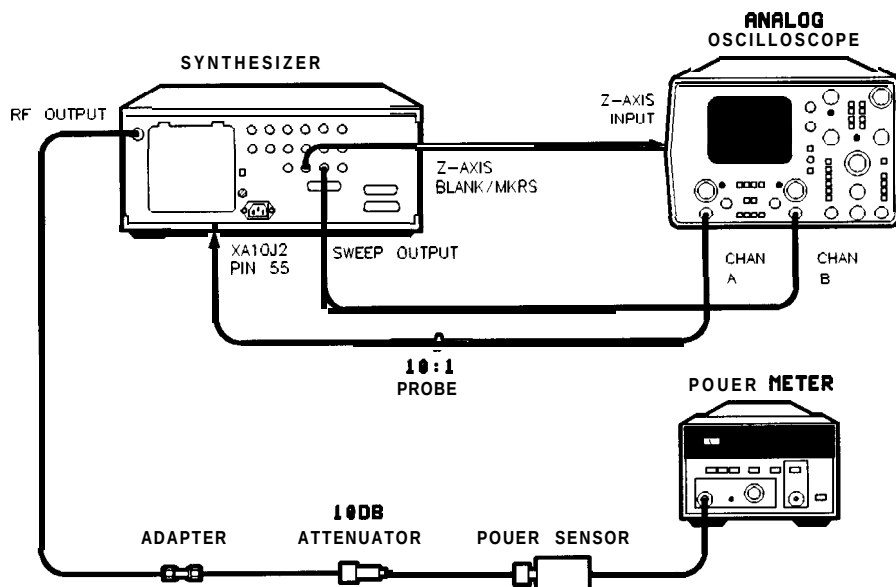
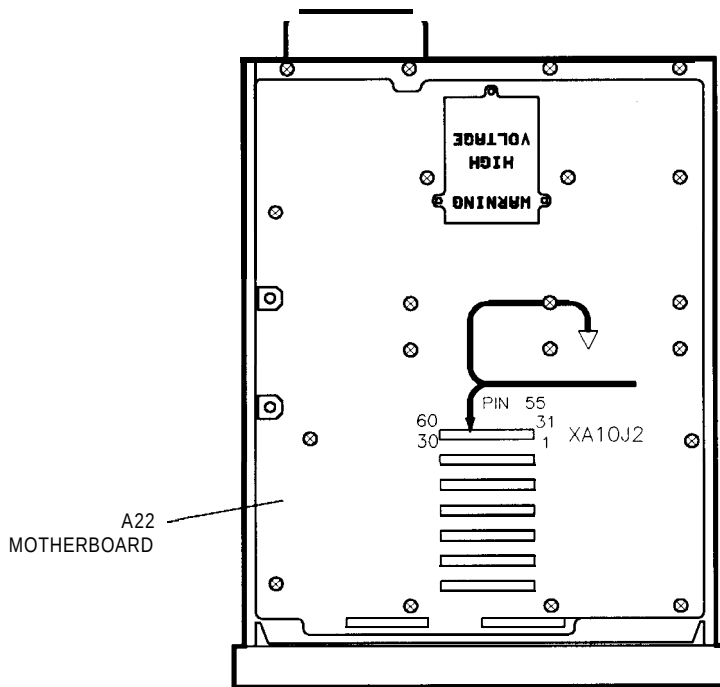

Figure 3-20. Amplifier/Filter Adjustments Setup
Figure 3-21. XA10J2 Location
1. Connect the equipment as shown in Figure 3-20 using an analog oscilloscope with A versus B sweep capability. Do not connect the power meter yet. (See Figure 3-21 for location detail of XA10J2 pin 55 on the motherboard.) Power on all the instruments and let them warm up for at least one hour.